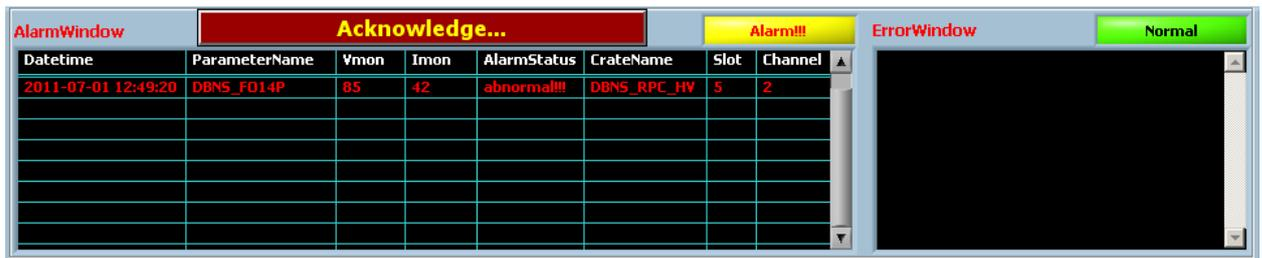

Fig. 21 Alarm Window and Error Window in the DCS Monitoring screen.
1. When a channel trips, the bulb will turn red, an audible alarm will sound, and there will be a new entry in the Alarm and Error windows at the bottom of the screen of the DCS Monitoring Window (Fig. 21). The channel will turn itself off.